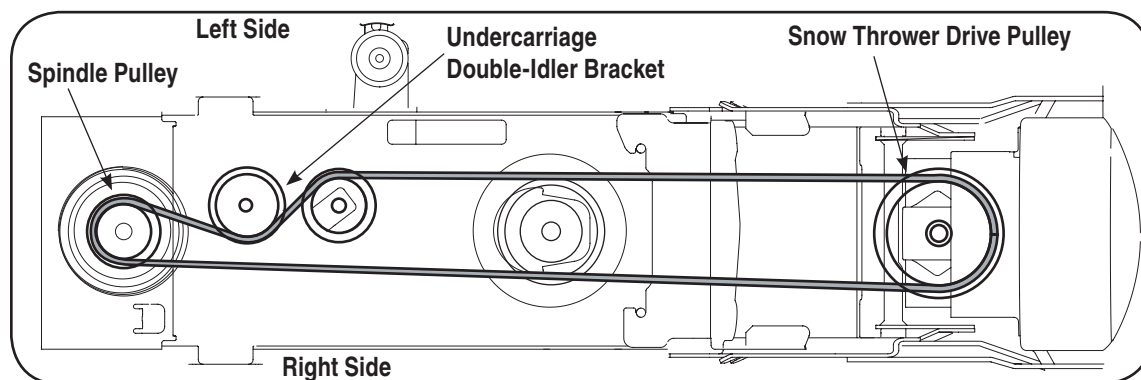

Figure 8-3
1. Attach and route the lower drive belt around the lower pulley on the spindle assembly, both pulleys on the double-idler bracket found beneath the undercarriage, and the drive pulley found on the rear of the snow thrower housing as illustrated in Figure 8-3.